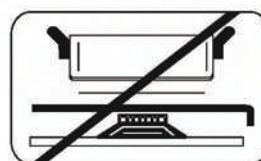

Fig. 1
- Do not place anything, e.g. flame tamer, asbestos mat, between pan and pan support as serious damage to the appliance may result. (Fig 1)